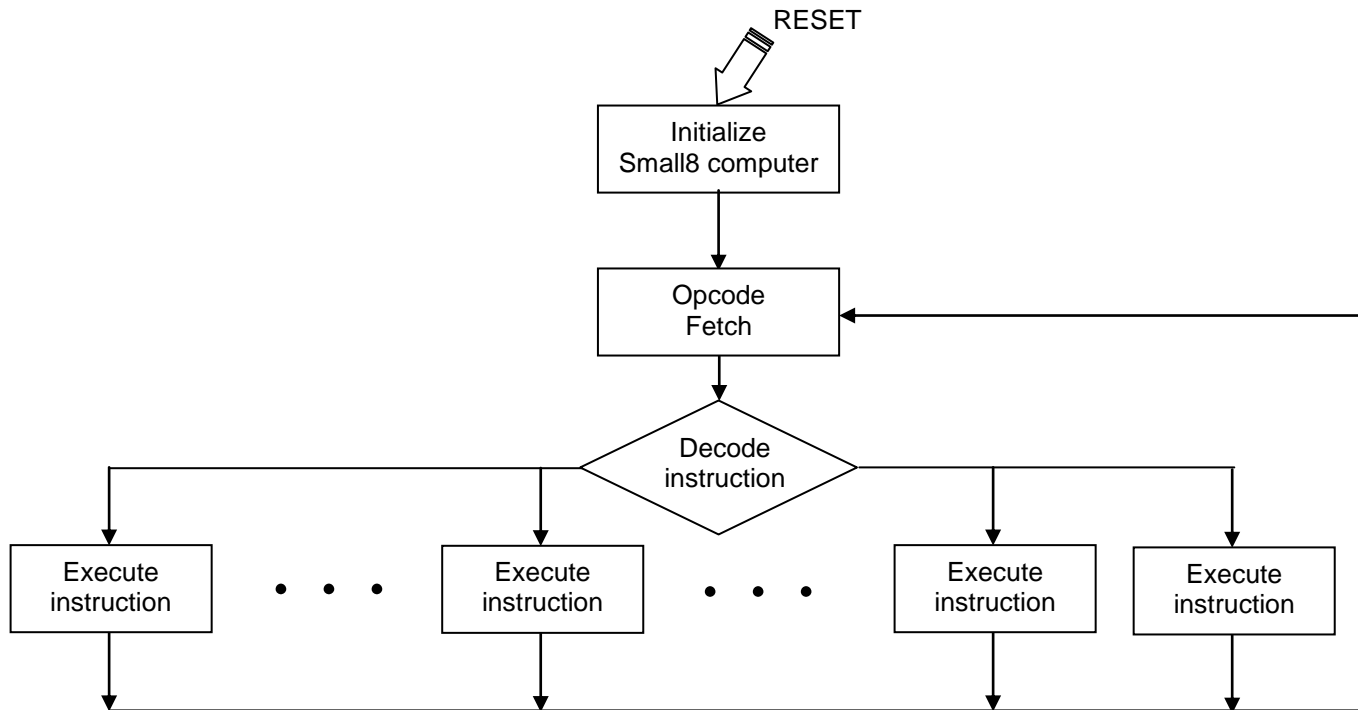

Figure 4. General algorithm for the CPU controller.
- You are to develop a detailed finite state machine for the CPU controller based on the algorithm in Figure 4 and the detailed design of the datapath (“internal architecture”) components you plan to use for Small8.
- Although the execution of each instruction is shown in Figure 4 as conceptually requiring a separate “path” in the finite state machine, your FSM should be optimized by using shared states whenever possible. Hint: similar types of instructions will have similar control requirements. For example, for the “and”, “or”, and “xor” instructions, the only difference in the control will be the select value for the ALU. If you can extract the select value from the opcode, you can use the same FSM states for each of these instructions.